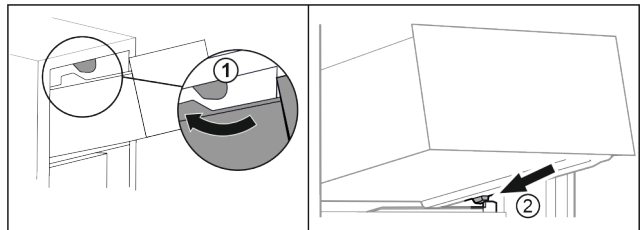

Fig. 69
- ▶ Guide drawer around the upper stoppers. Fig. 69 (1)
- ▶ Place drawer at an angle behind the lower stoppers onto moulded rib. Fig. 69 (2)